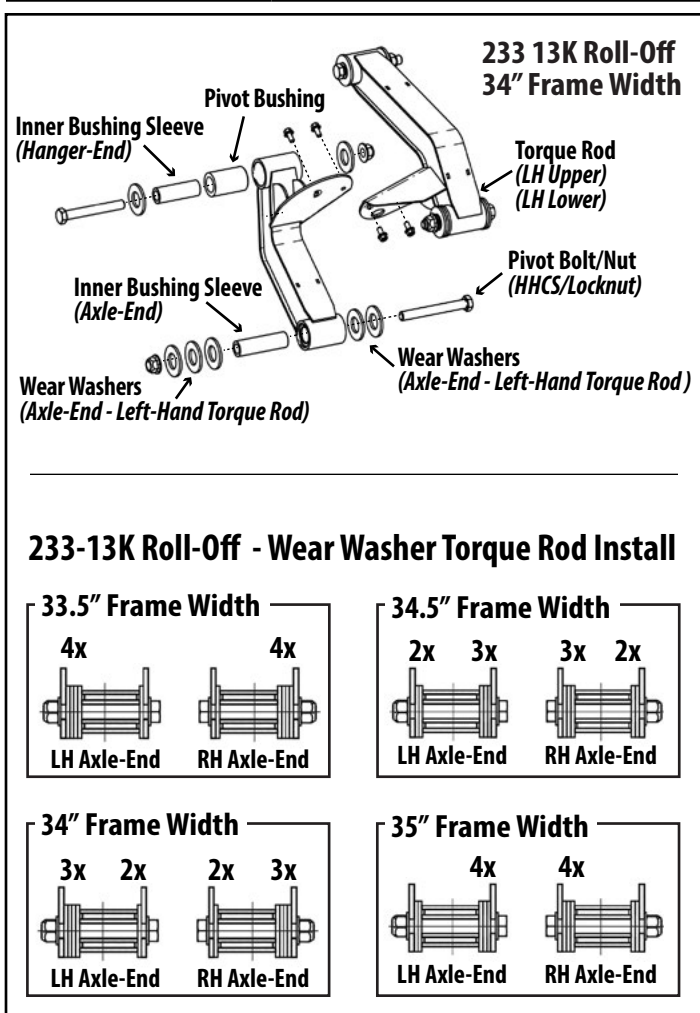

Figure 9.
- Count the number of wear washers on each side of the bushing on the Axle-End Torque Rod Assembly. The number of wear washers varies according to the pre-set frame width (Figure 9).
Assemble pivot connection with appropriate number of wear washers on either end of the inner sleeve on the axle-end of the torque rod (Figure 9).